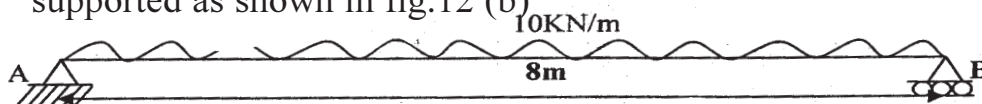

Fig12(b)
b) Determine the deflection at the nodal points for beam AB loaded and supported as shown in fig.12 (b) [8]